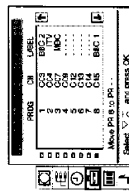

Fig. 14
- 3 Select »Programme Sorting« with Δ or ∇ and press OK. The PROGRAMME SORTING menu appears. (See Fig. 14)